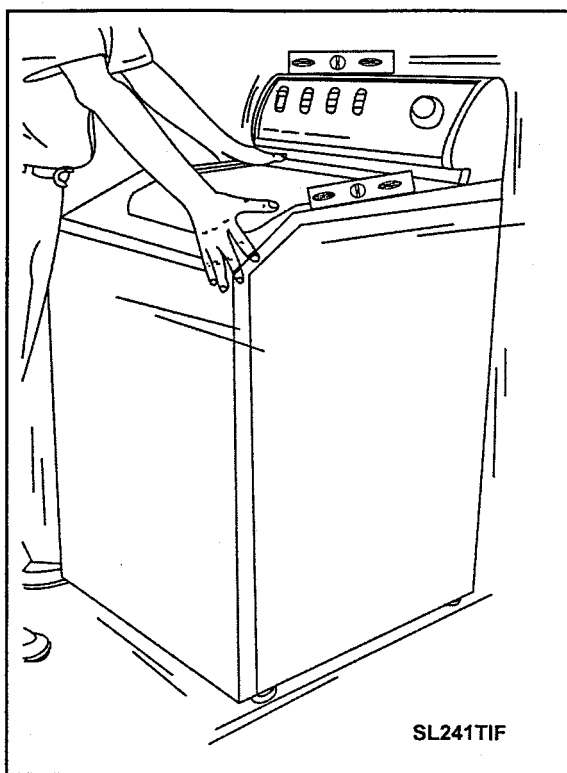

Figure 1-4
6. Tilt machine forward until rear of cabinet is approximately 4 inches off the floor. Lower the machine back to the floor on the rear feet. This operation causes the rear stabilizing feet to conform to the contour of the floor and seat them solidly. Push washer with hands on opposite corners to check stability (**Figure 1-4**).